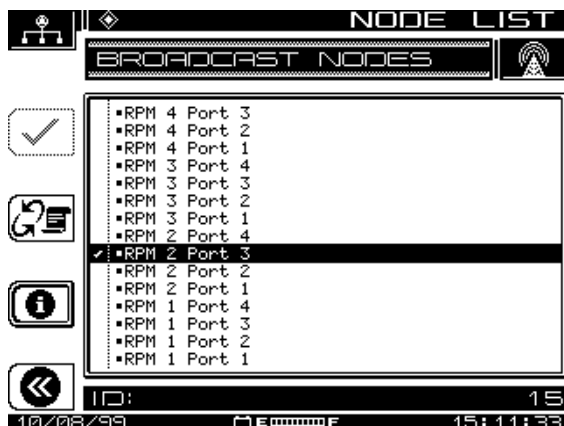
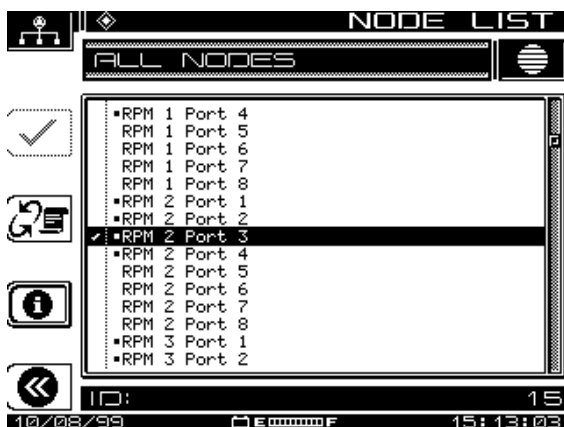

Fig. 8-4 Broadcast Node View
Fig. 8-5 All Nodes View
provide the PathTrak system administrator with the identification (ID) number of the requested node. The ID number is located on the bottom-left of the screen (see Fig. 8-4).
Select the **Node Toggle** soft key to toggle between the Broadcast Nodes view (See Fig. 8-4) and the All Nodes view (See Fig. 8-5).